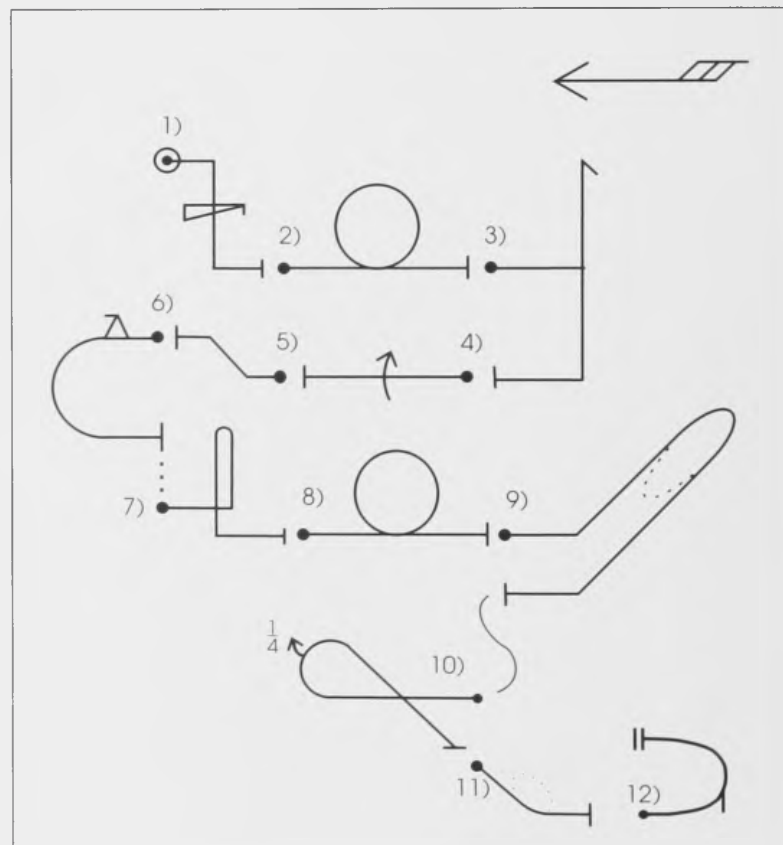

Fig 5: A Sample Aresti Programme
The first thing you need is something to draw on. Where would we be without that wonderful little invention the 'Post-it' pad. It has become standard equipment for many aerobatic pilots. Just right for jotting down your programme and sticking it to the instrument panel. You will be able to see from the sample programme, Fig 5, that it is best to start by specifying the wind direction in relation to the drawn programme in the top corner. All competition programmes must start into wind. At more advanced levels it is also a good idea to note other information such as your initials, date, aircraft type, flight
Cross box figures are drawn with an entry or exit line at 30° or 60° to the horizontal as illustrated by item 11 of Fig 5.
Where it is difficult to draw a figure without it overlapping with another, the convention is to use a 'squiggly' or dotted line to displace it downwards before continuing to draw the next figure. See aerobatic figures 6 – 7 and 9 – 10 in the sample programme, Fig 5. Always number each figure as shown. This is important when it comes to the 'critiquing' of your flight by a ground observer.